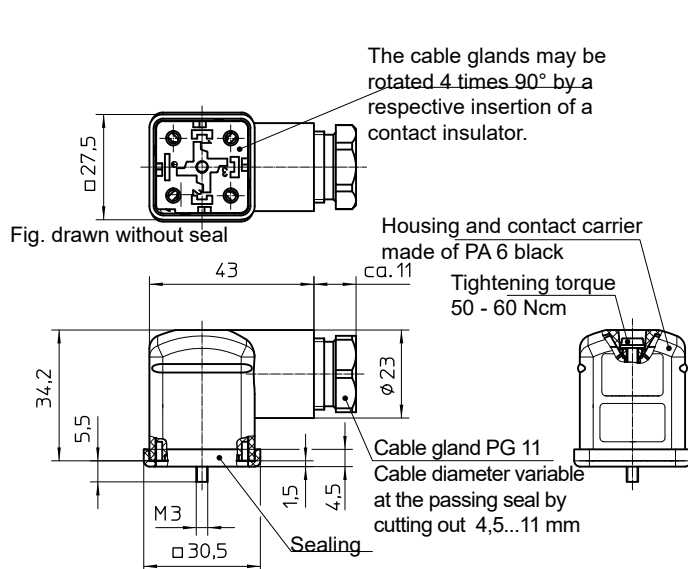

Fig. 6
2) An adjustment to the cable diameter is possible by simple removing of the respective rubber bands (see fig. 6, 7)